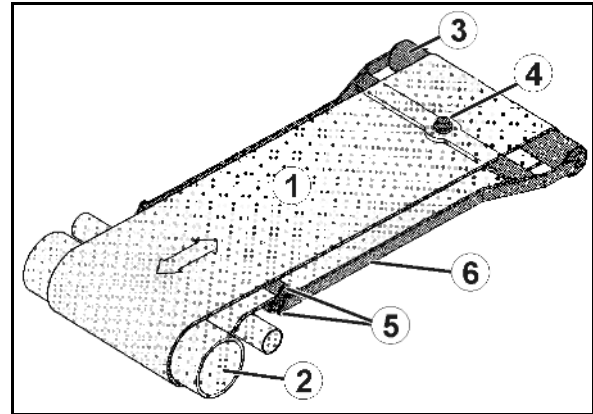

Fig. 71
1. Release lock button of hood (Fig. 71/1).